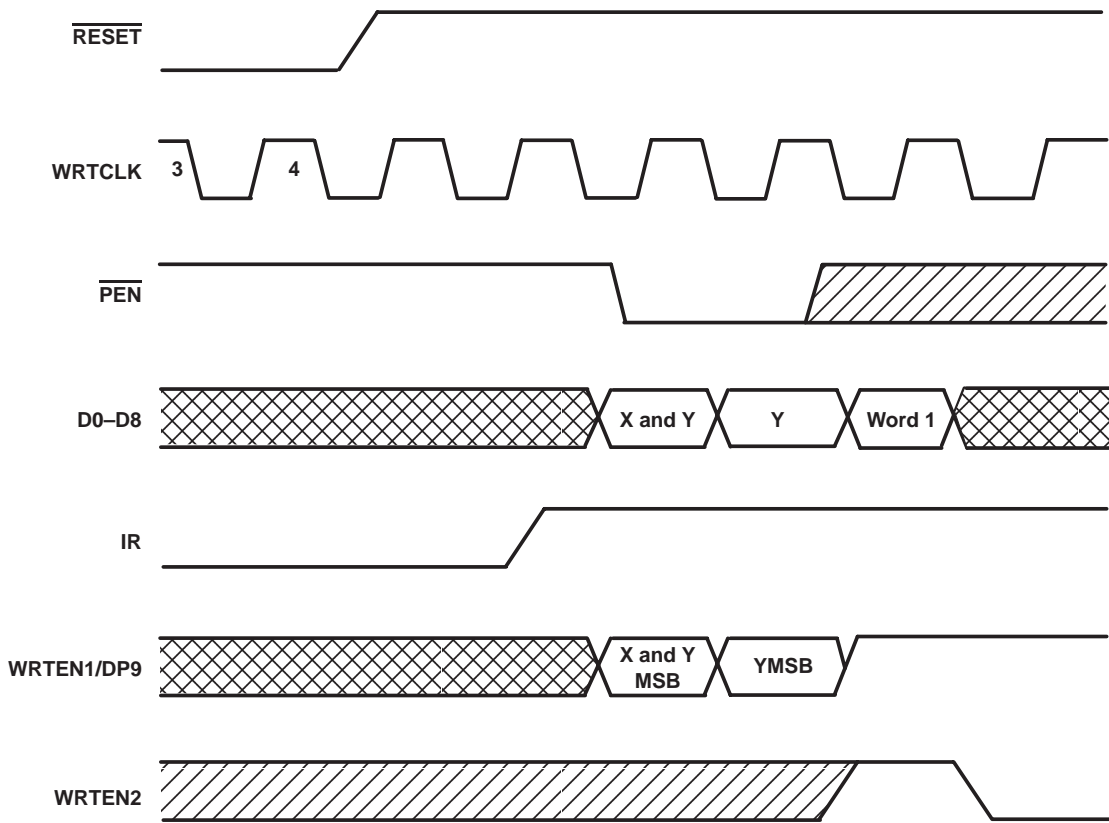

Figure 1. Programming X and Y Separately
Program enable (\overline{PEN}) should be held high throughout the reset cycle. \overline{PEN} can be brought low only when IR is high and WRTCLK is low. On the following low-to-high transition of WRTCLK, the binary value on D0–D8 and WRTEN1/DP9 is stored as the almost-empty offset value (X) and the almost-full offset value (Y). Holding \overline{PEN} low for another low-to-high transition of WRTCLK reprograms Y to the binary value on D0–D8 and WRTEN1/DP9 at the time of the second WRTCLK low-to-high transition. While the offsets are programmed, data is not written to the FIFO memory, regardless of the state of the write enables (WRTEN1/DP9, WRTEN2). A maximum value of 1023 can be programmed for either X or Y (see Figure 1). To use the default values of $X = Y = 256$, \overline{PEN} must be held high.
timing requirements over recommended operating free-air temperature range (unless otherwise noted) (see Figures 1 through 5)